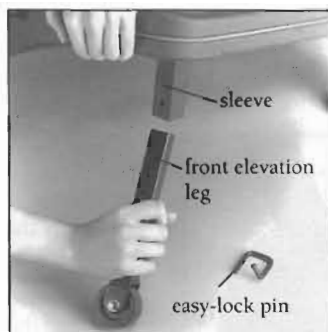

Figure 7
1. Tilt the Total Body Treadmill to one side. There should be enough clearance to slide an elevation leg into the sleeve (Figure 7).